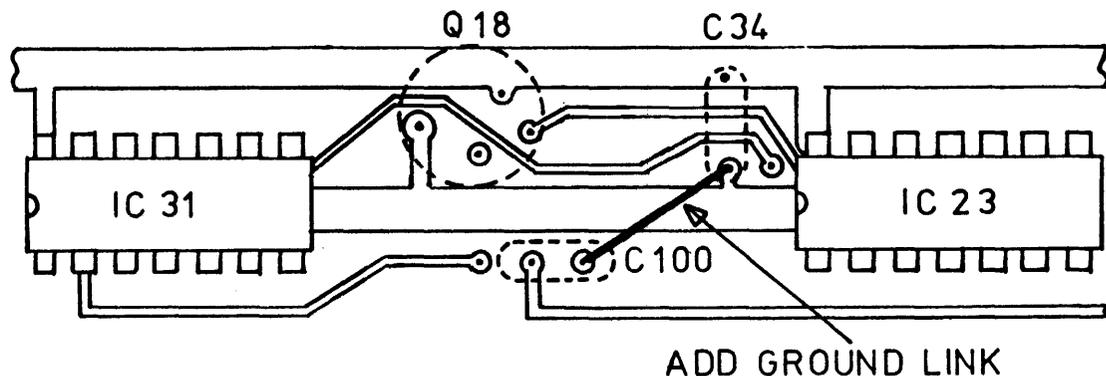

FIGURE 1 COMPONENT SIDE REWORK
- 2) On component side, location C5, add a jumper wire between the end of C100 nearest IC 23 and the ground at C34. (Refer Figure 1)